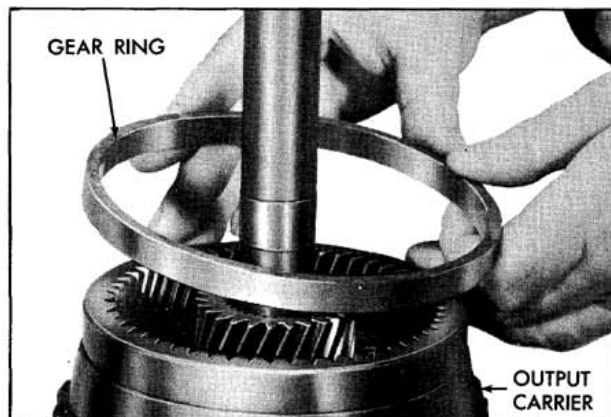

Fig. 6-83 Removing Gear Ring
5. Remove front internal gear ring from output carrier assembly. (Fig. 6-83)